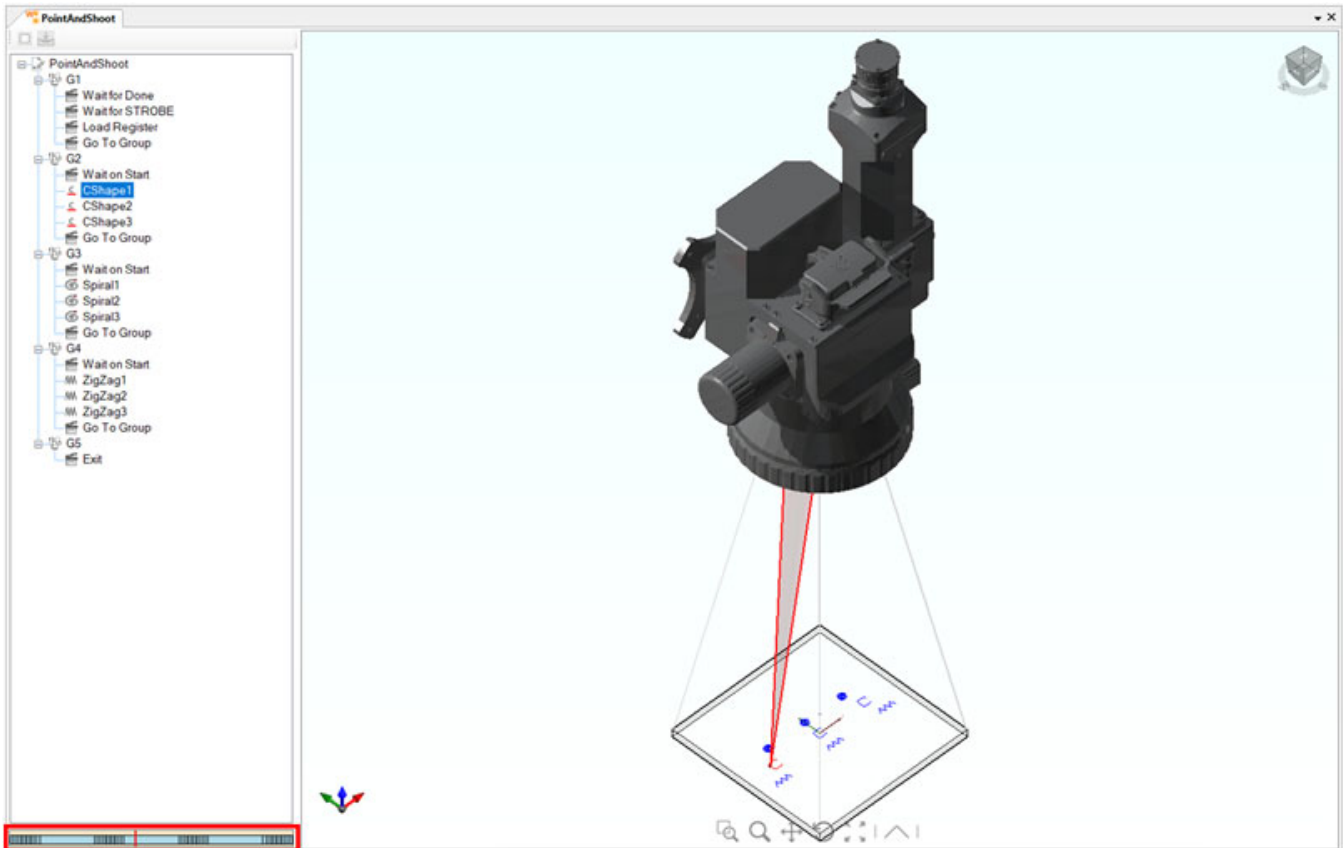

Figure 241: Projection Volume in a Point and Shoot Job
- Default and Point & Shoot Job Types - Select a Process Object in the job and scrub along the timeline that appears at the bottom of the Job Tree. See Figure 241 (below).